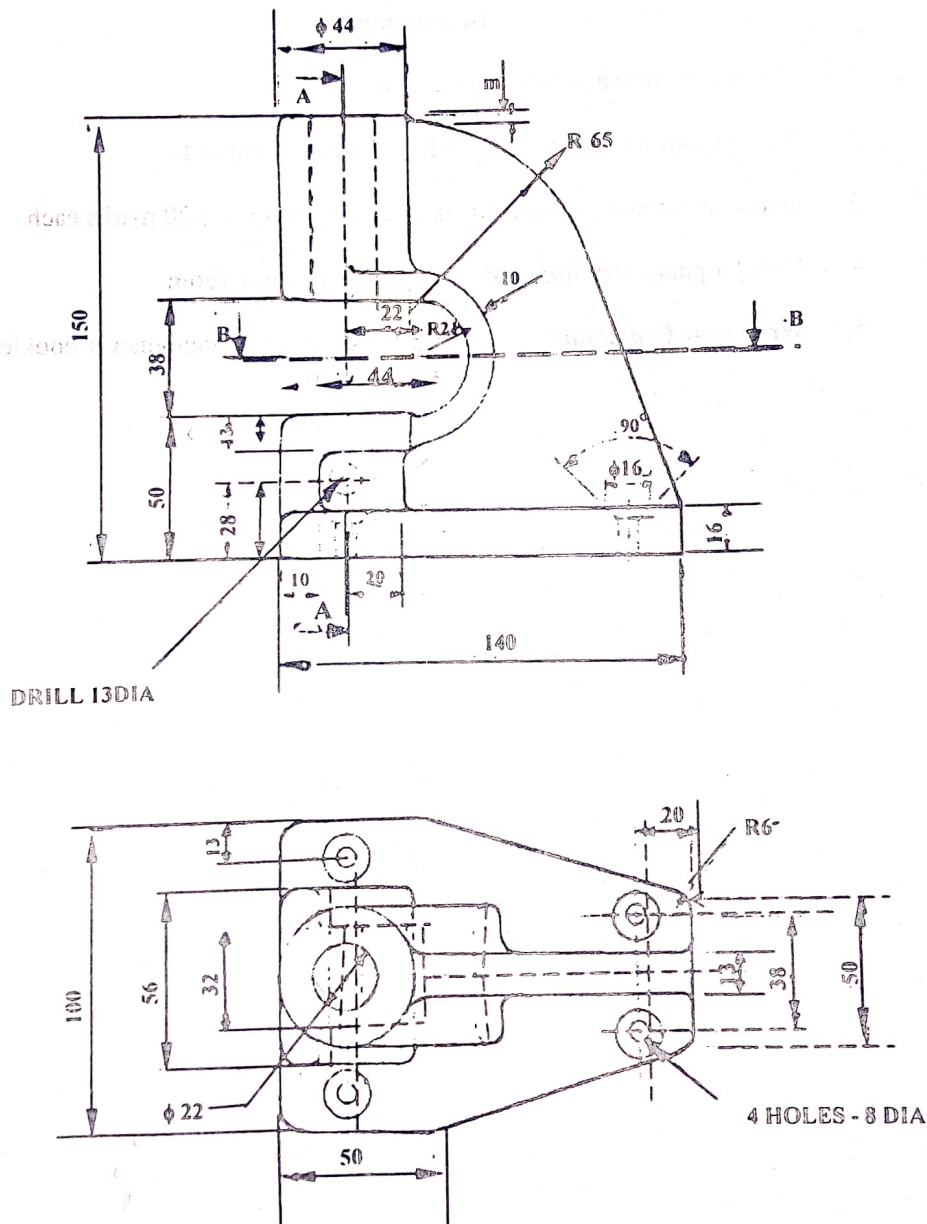

Fig. 1
1. Figure 1 shows the elevation and plan of a machined casting. Draw full size in first angle projection the following views: